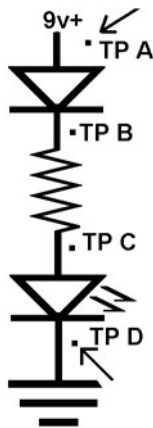
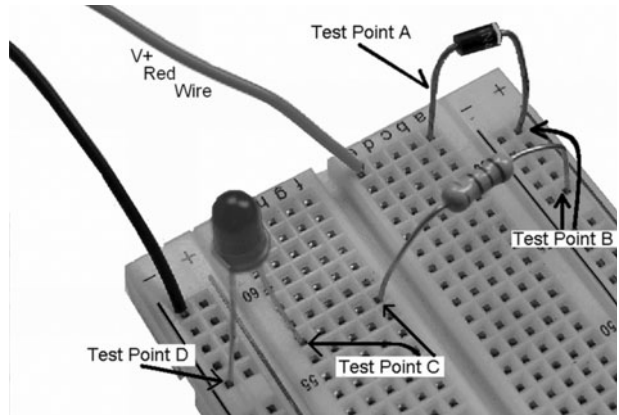

Figure L3-12
Figure L3-13
3. Place the red (+) probe at test point A (TP-A) and the black (–) probe at TP-D (ground). The arrows in the schematic shown in Figure L3-12 indicate where to attach the probes. Corresponding test points have been noted in Figure L3-13 as well.